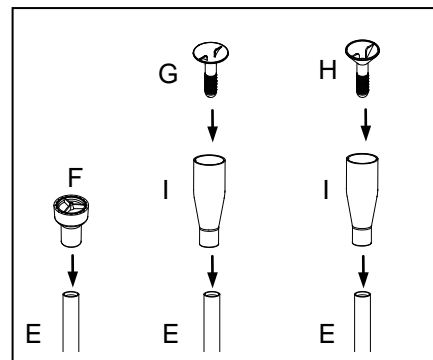

Fig. 3
3. Choose a fountain head for the desired water effect, and assemble your choice as shown in Fig. 3.